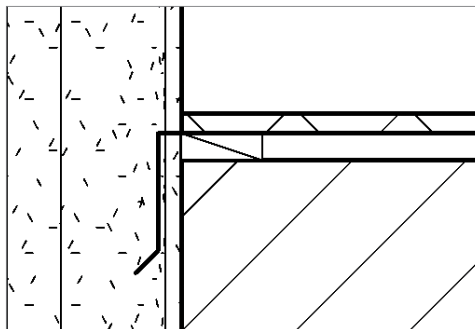

FIGURE 11.15 Adding flashing using detail lines
13. Using the Detail Line tool, draw in some flashing for the window sill (Figure 11.15).